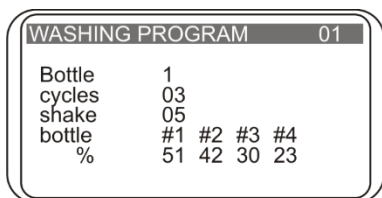

Figure 8. Display during operation with connected 4-CHW Logger
- 5.17. If 4-channel washing solution weight logger is connected to the unit, then during operation, display shows program number, currently used bottle number, the number of cycles left and the remaining volume percentage of liquid in the bottles (fig. 8). For the waste bottle, filled liquid amount is displayed accordingly based on 2-litre bottle volume percentage.